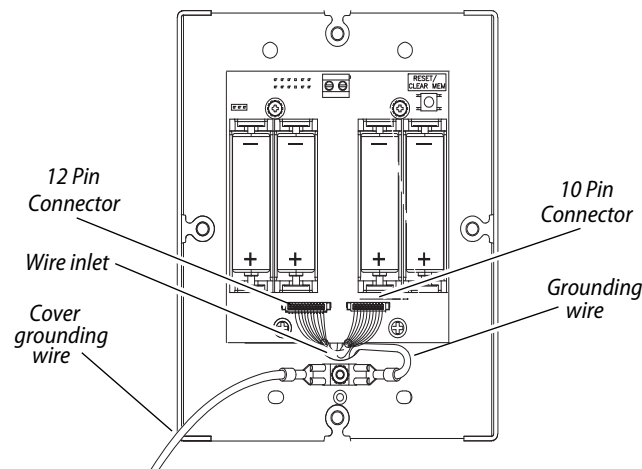

Figure 3 Wire connections to circuit module
- 4 Connect the batteries and wires as shown in Figure 3.